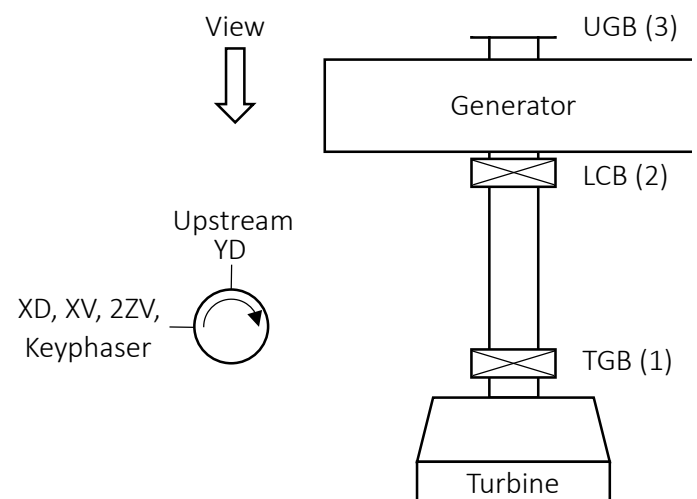

Figure 1: Machine train diagram and transducers layout.
*Below: Fig.1.*
The unit is fitted with X-Y proximity probes at UGB, LCB, and TGB for relative shaft vibration (suffix XD/YD) measurement as depicted in Figure 1. In addition, velocity sensors are attached to each bearing housing to measure casing vibration (suffix XV) and axial vibration (suffix ZV) at LCB. The inductive proximity switch keyphaser is fitted to the shaft just above the X probe at TGB. All vibration and keyphaser signals are fed to the vibration rack that has BNC buffered outputs for vibration analyzer connection.